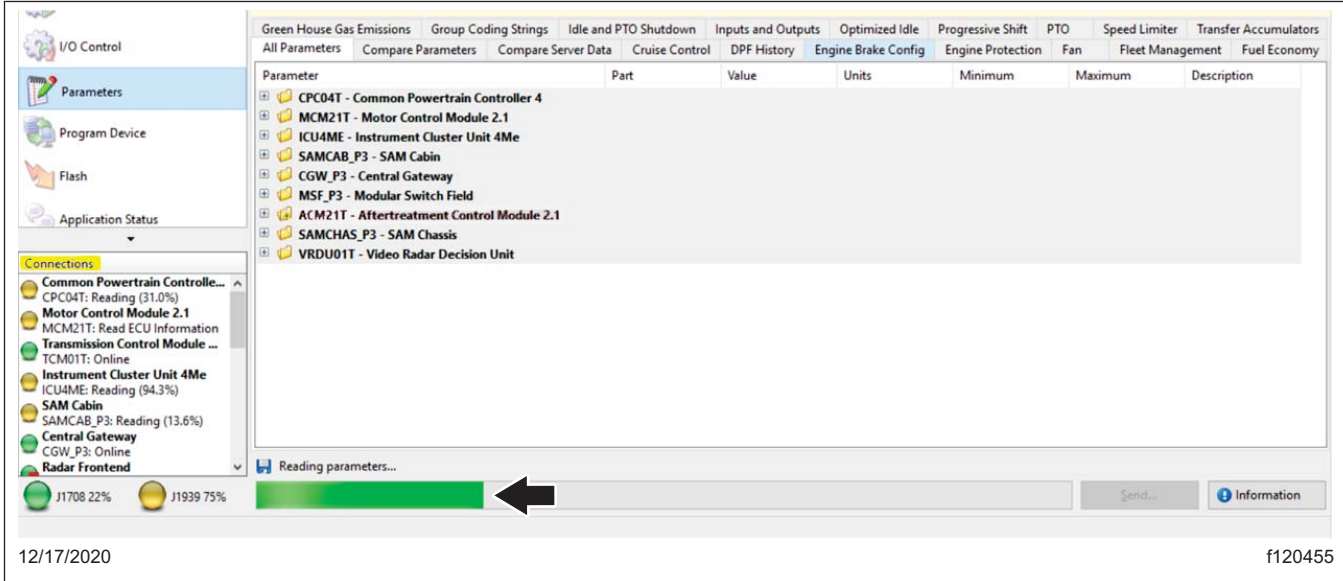

Fig. 4, Reading Vehicle Parameters on DiagnosticLink
5. Allow time for all modules to connect (see list on the bottom left-hand side of the screen under "Connections" in Fig. 4), then read the vehicle parameters by selecting "Parameters" at the top left-hand part of the screen. Wait until the bar indicating parameter reading is complete.